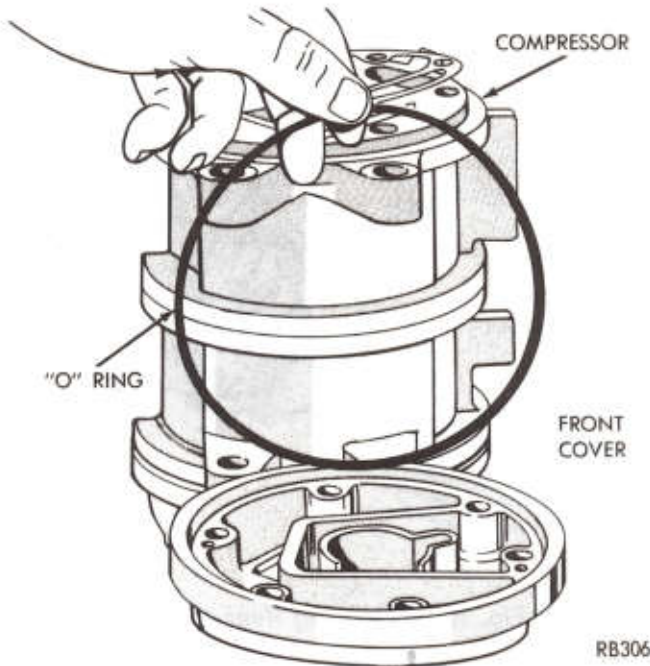

Fig. 4—Removing O-Ring
- (4) Remove O-ring seal from front cover and discard (Fig. 4). Never re-use cover O-rings or valve plate steel-n-gaskets.